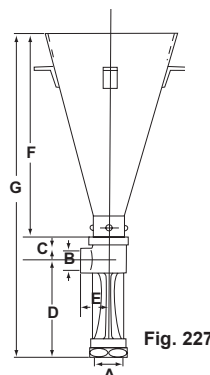

Fig. 227
**Table 227. Sizes and Dimensions of Fig. 227 Hopper-Equipped Eductor**